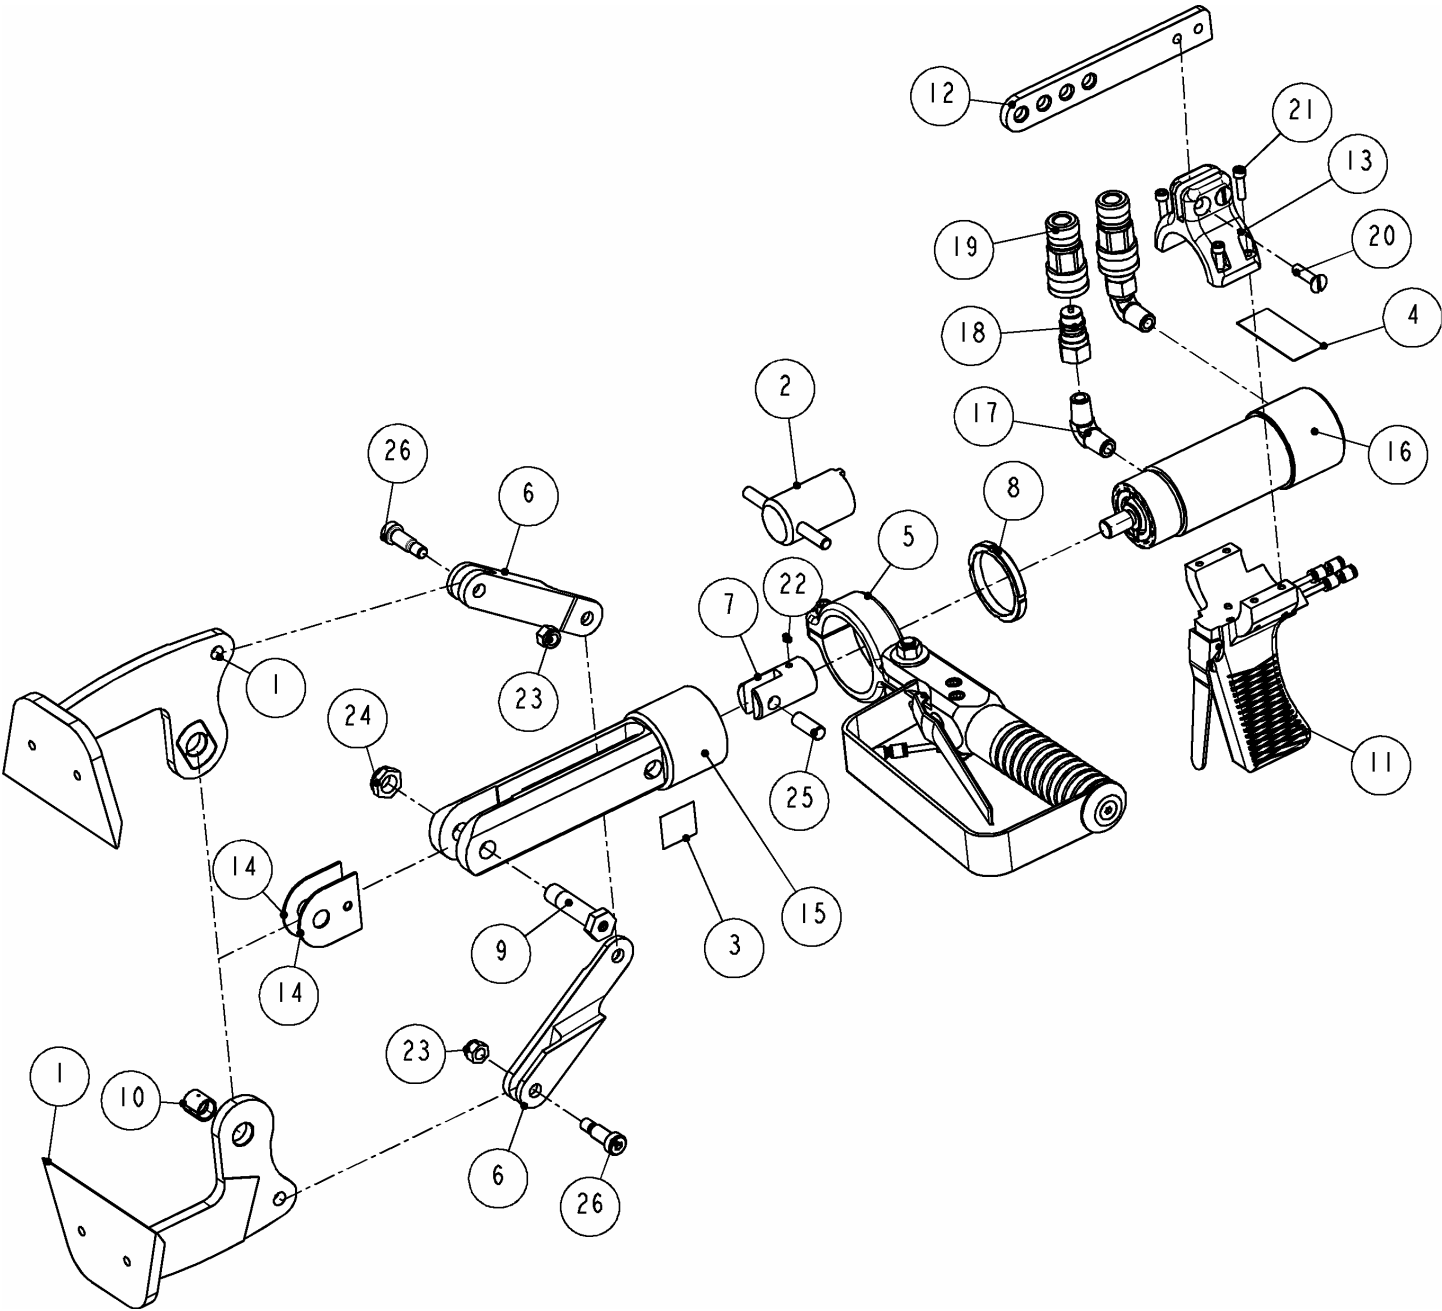

Figure 2 MODEL "M-9" – MAIN ASSEMBLY
1. LOOSEN SET SCREW, ITEM 22 - FIGURE 2. SCREW CLEVIS, ITEM 7 – FIGURE 2, OFF OF ROD, ITEM 3 – FIG. 7.